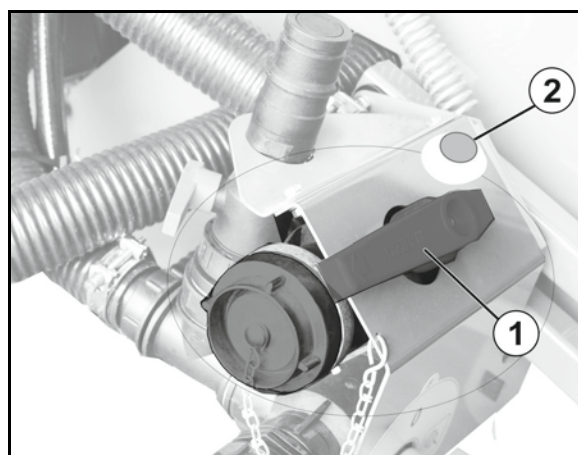

Fig. 60
- Switch tap with filling connection (Fig. 60).
- (5) Automatic fill stop with button for manual termination of the filling (optional)